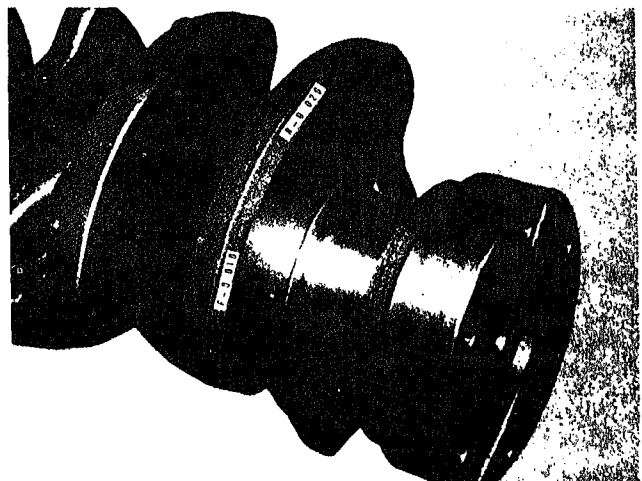

Fig. 1-4-5. Oversize thrust bearing size mark on crankshaft
2. Reground crankshafts or those used with oversized thrust rings should be marked so the correct thrust rings will be installed in their proper position, Fig. 1-4-5.